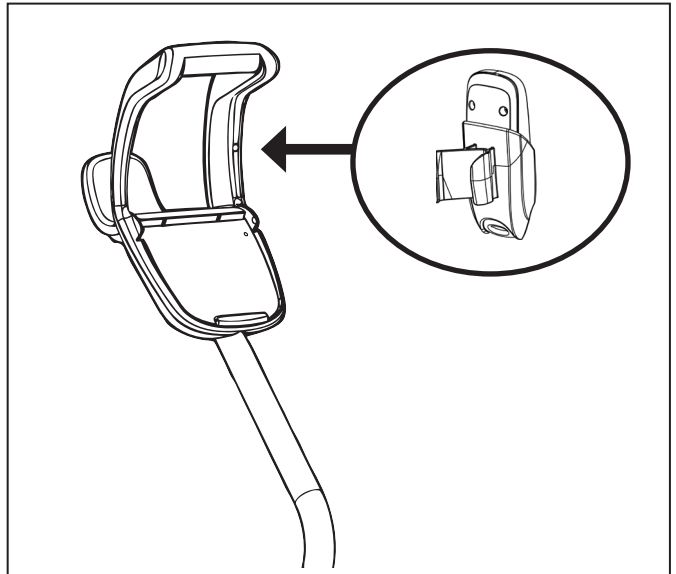

Figure 8. Snap Remote Control Holder into Place
9. **(VX55 4WD only)** Locate pin on the remote control holder and align it with the receptacle on the handle of the caddy to attach the remote control box to caddy (Figure 8).